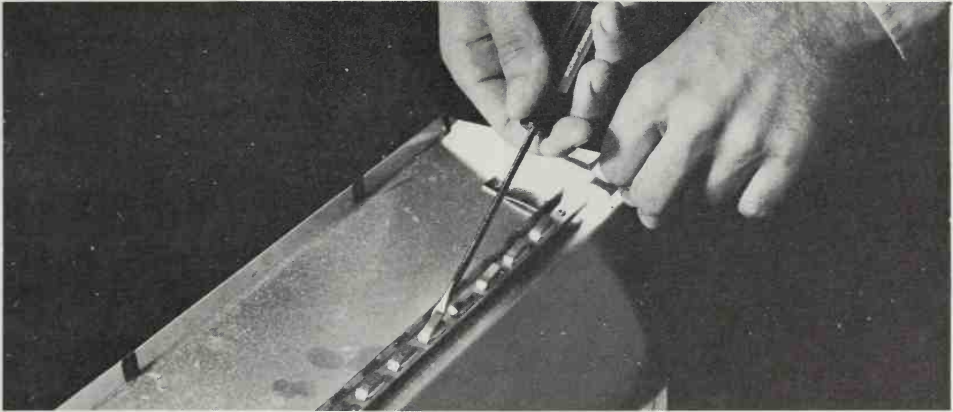

Figure 13. Damaged insulators (see Figure 6) can usually be replaced. Here, reflector pan had to be removed because prongs on top of pan hold the insulators.
- Check all insulators for cracks and breakage. Replace damaged insulators (Figure 13). Parts for room heaters are available from electric-parts supply stores.